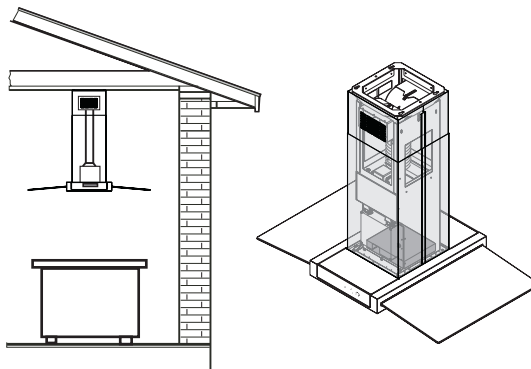

Fig. 2
- The air is filtered through a **charcoal filter** and returned to the kitchen. **Fig. 2**